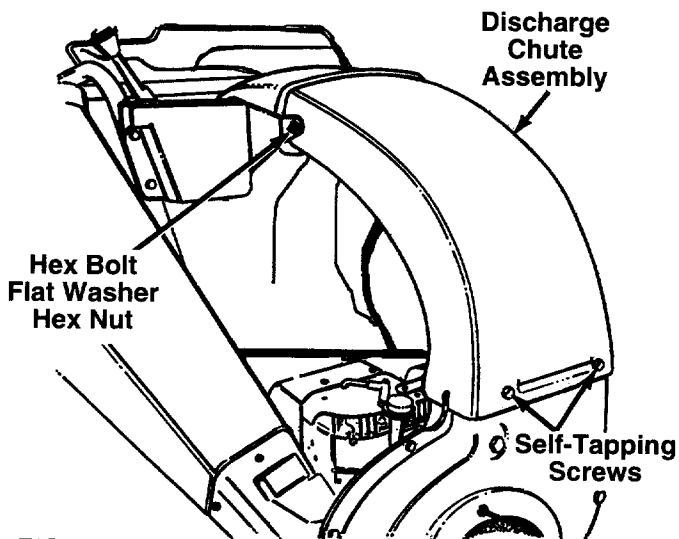

FIGURE 19.
- Remove the four self-tapping screws from the bottom of the discharge chute. (Be careful not to drop the hardware into the chute.) Remove the discharge chute assembly. See figure 19.